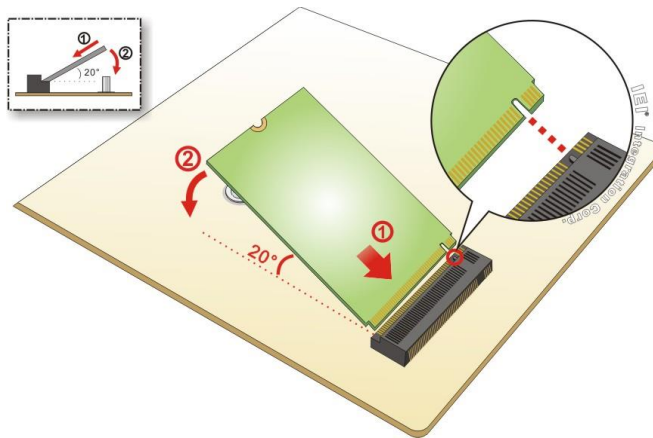

Figure 4-1: Inserting the M.2 Module into the Slot at an Angle
- Step 3:** Line up the notch on the module with the notch on the slot. Slide the M.2 module into the socket at an angle of about 20° (Figure 4-1).